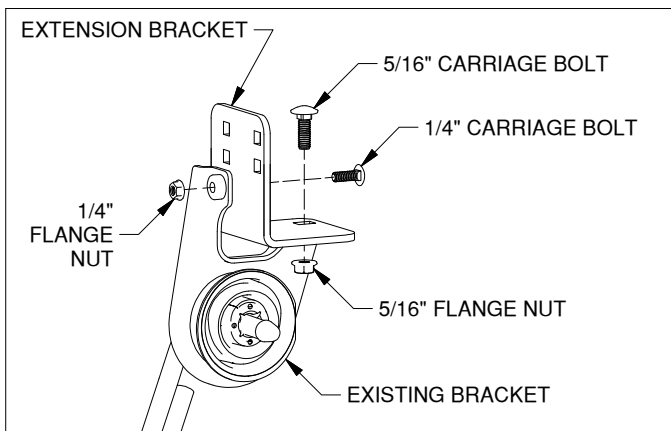
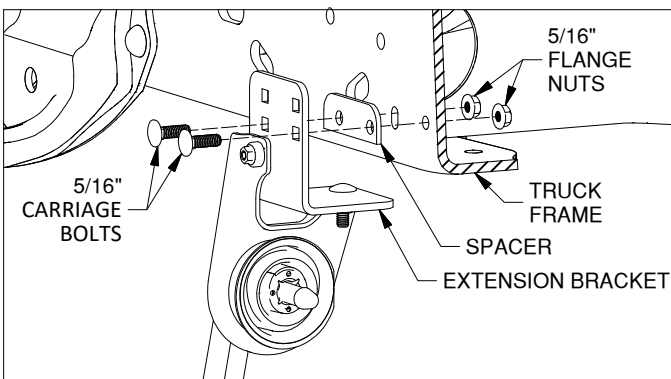

Figure G1: View of rear exhaust bracket.
Figure G2: View of rear exhaust bracket and frame.
1. **Re-attach exhaust.** If the rear exhaust bracket was disconnected for installation re-attach the bracket. In pickups equipped with a diesel engine, the exhaust may have to be lowered to allow clearance for the center section. Attach the supplied extension bracket to the existing exhaust bracket as shown in Figure G1. Next, attach the extension bracket to the frame. There are two sets of holes in the bracket to allow for variations in the exhaust. Match the proper holes in the supplied bracket with the same frame hole used by the factory bracket and the hole directly to the right of it as shown in Figure G2. Add the supplied spacer and attach the bracket to the frame with 5/16" carriage bolts and flange nuts. Not all truck models will have the hole to the right. In this case, attaching the bracket with one 5/16" carriage bolt is sufficient.